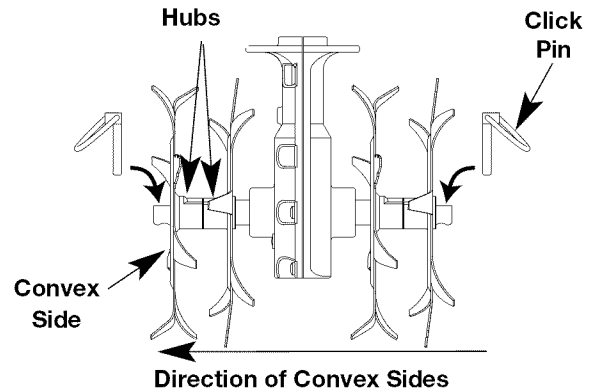

Fig. 9
2. Remove the click pin from each end of the tine shaft. Slide the tines off of the shaft (Fig 9).
4. Slide on the new tines with the hobs facing each other (Fig. 9).
- NOTE:** Each tine was a convex site. Make sure that all of the convex sides are facing as shown in Figure 9.